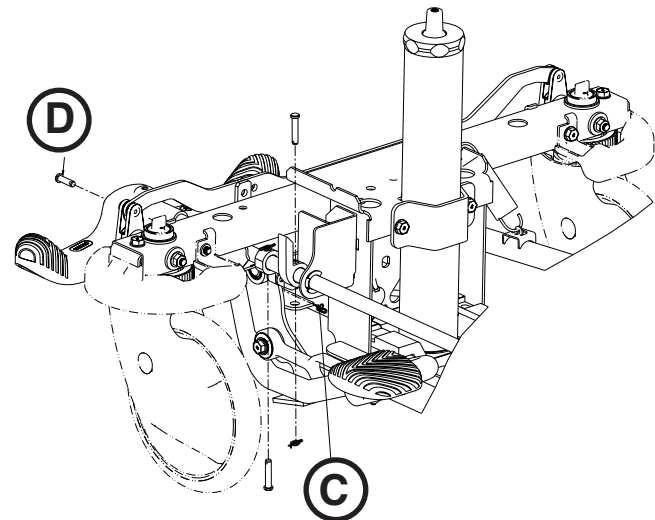

Figure 11
7. Using needle nose pliers, remove the rue ring cotter (C) and then clevis pin (D) from the brake rod activator (Figure 11).